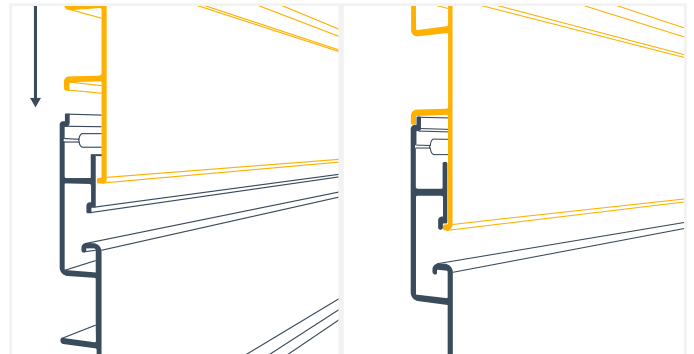

Fig. 33
12. Next, apply gentle downward pressure (towards the floor) to interlock the panel with the previously installed panel below. You will feel and hear a "snap" when the panels have properly interlocked together (Fig. 33).